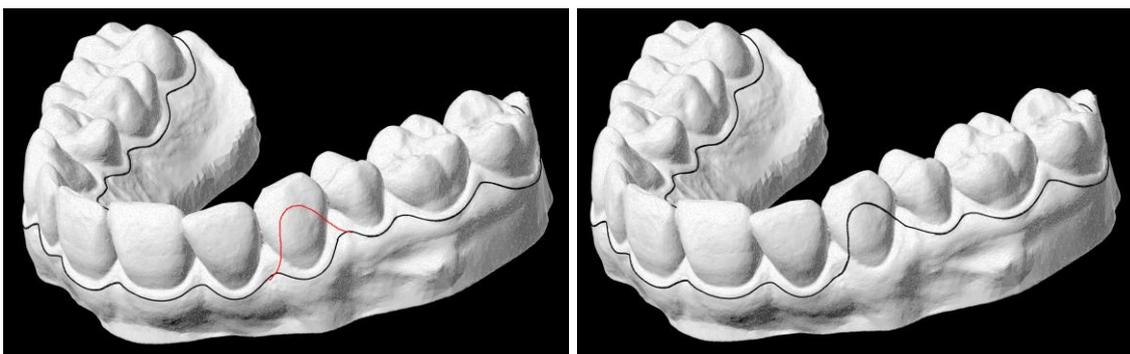
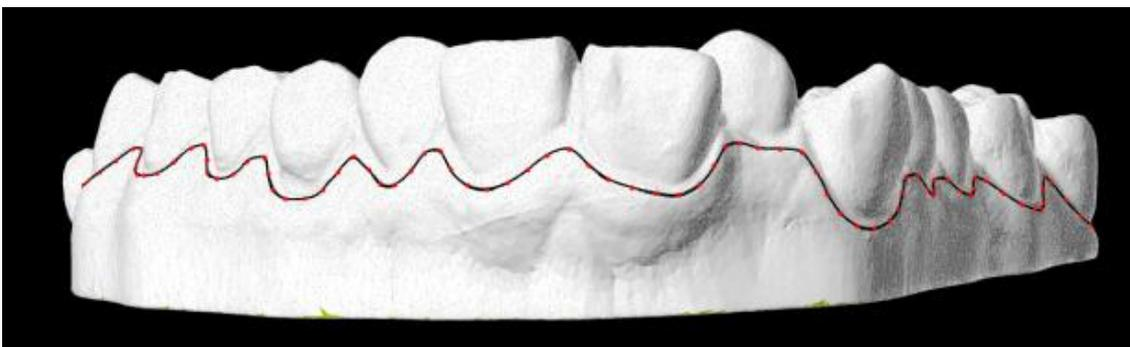

Figure 6: Freehand correction directly on the model
Figure 7: Display of the control points for mesh trimline modification
Additionally, the trimline can be adjusted by *Freehand correction* (9) or via *Show control points* (10). With the freehand correction you can directly draw the desired path on the model (see Figure 6). When displaying the control points the trimline can be modified by dragging any of the red points (Figure 7).